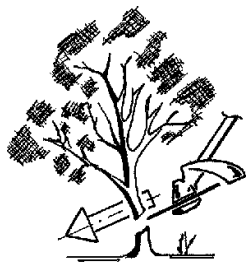

Fig.23
- For trunks of from 3 to 7 cm in diameter, the disk saw must never be held horizontally, but always at a slight angle from upwards downwards to prevent the blade from jamming. The thicker the diameter of the trunk, the greater this inclination must be (Fig. 23).